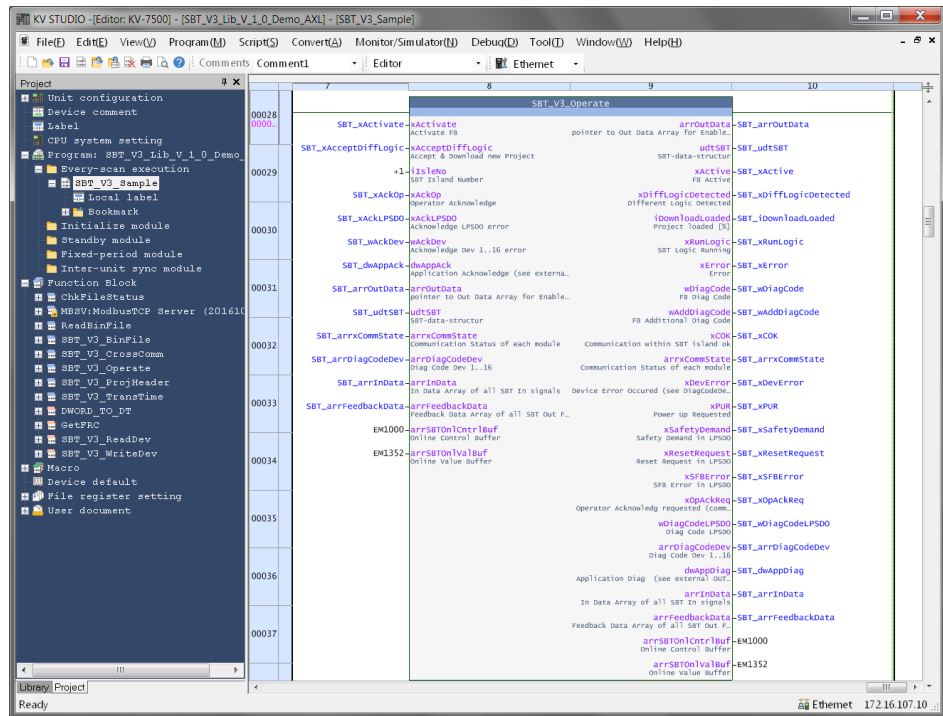

Figure 4-22 Function block SBT_V3_Operate
- Connect the function block as shown in Figure 4-22.